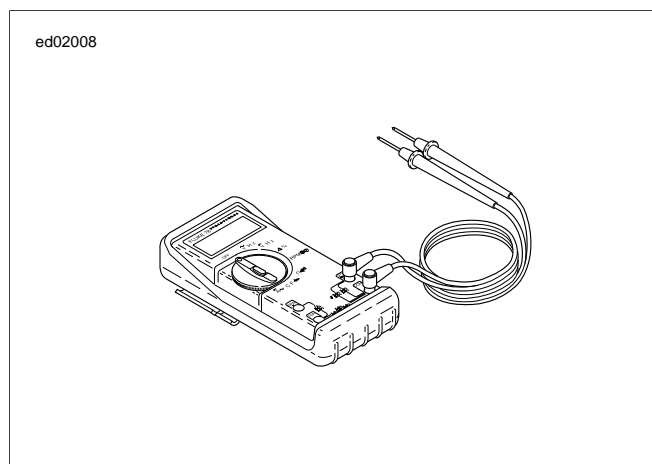

Figure 1-31. Digital Multimeter (Fluke 78)
- See Figure 1-31. Connect DIGITAL MULTIMETER (FLUKE 78) (Part No. HD-39978) to wiring harness between the suspect connections. When diagnosing ECM connections, use BREAKOUT BOX (Part No. HD-48637) to simplify the procedure. See 1.2 DIAGNOSTIC TOOLS.